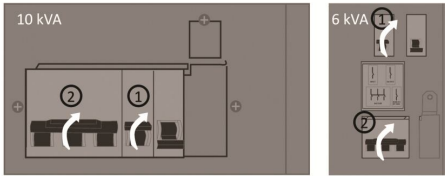
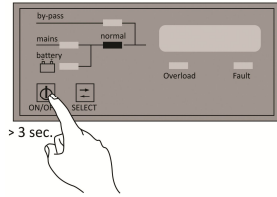

Figure 3.1
Figure 3.2
1. Switch on the *Input CB* first and then the *Battery CB* (Figure 3.1). Press and hold the *ON/OFF* button until a warning beep sound, meanwhile observe the *normal* LED is on (Figure 3.2).